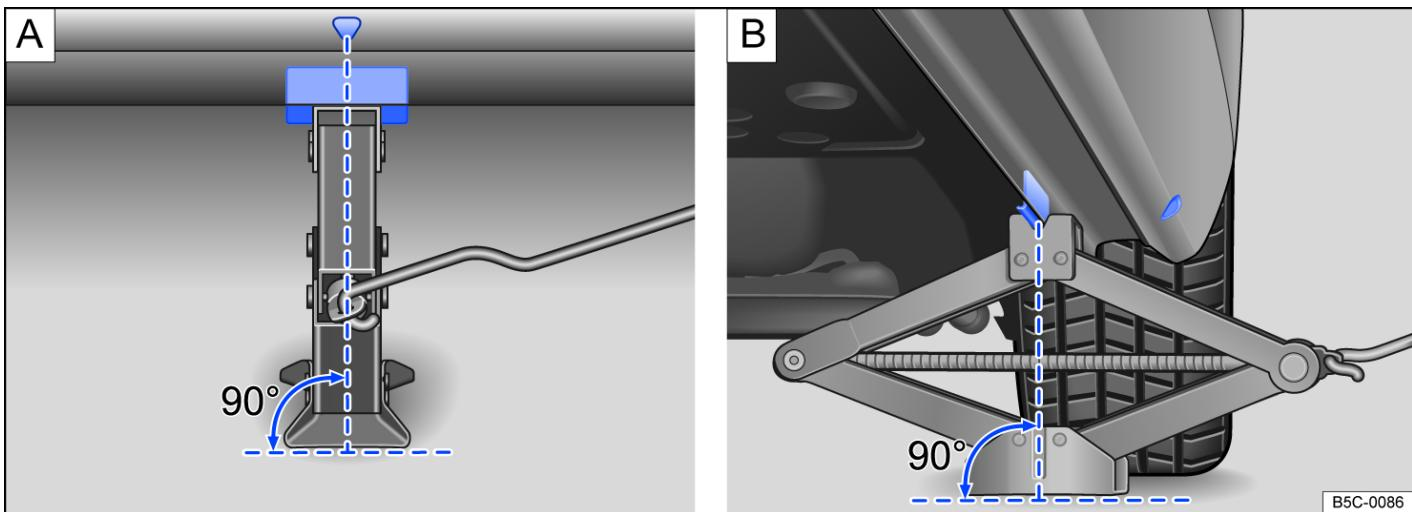

Fig. 2 Jack applied at the rear left-hand side of the vehicle.
9. Ensure that the entire surface of the foot of the jack is resting securely on the ground, and that the foot of the jack is positioned vertically directly beneath the point of application → Fig. 2 A and B.
10. Position the jack and simultaneously continue to crank the claw up until it is in position around the jacking point underneath the vehicle → Fig. 2.
- Apply the jack only at the points described. The vehicle jack claw must grip the vertical rib under the side member securely → *Fig. 2*.